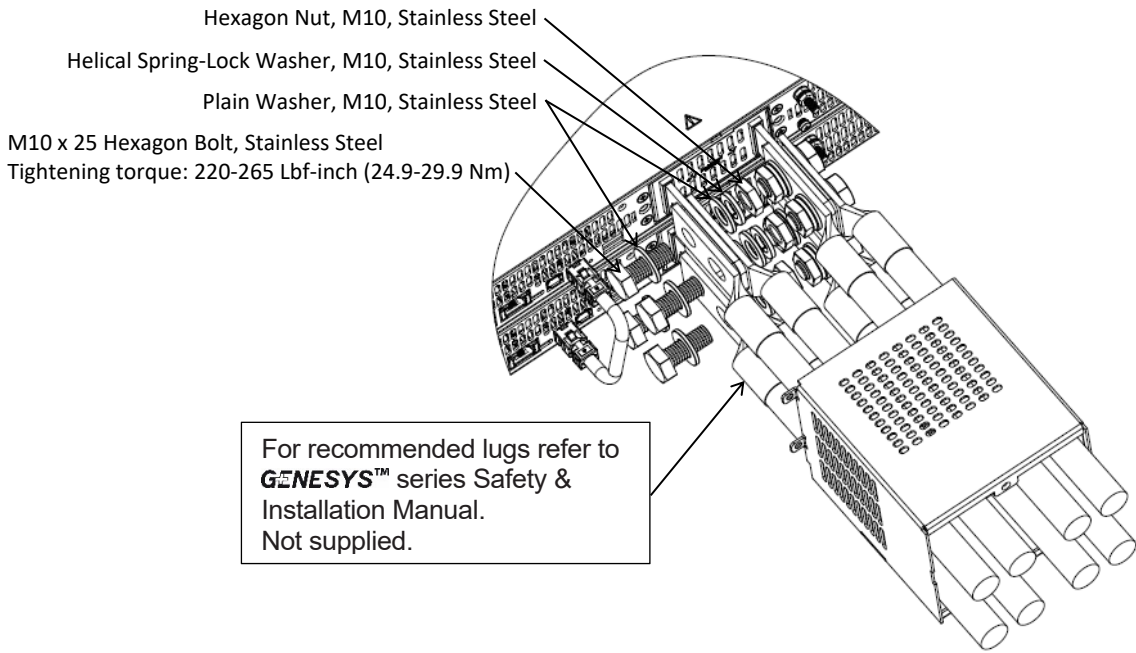

Figure 5: Two 10V Units Lugs Assembly
- Assemble two lugs on each bus bar, one on each side, using two hexagon bolts, four plain washers, two helical spring-lock washers and two hexagon nuts as illustrated in Figure 5.